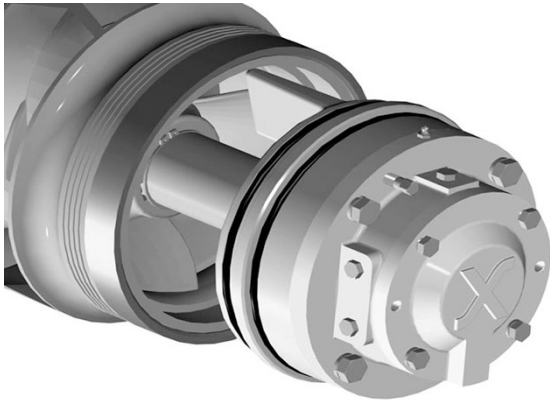

Figure 53: Bearing gland installed on bearing body
27. Install bearing gland onto bearing body and alternately tighten the bearing gland capscrews so as not to "cock" the bearing gland causing bearing to bind. (see Figure 53)